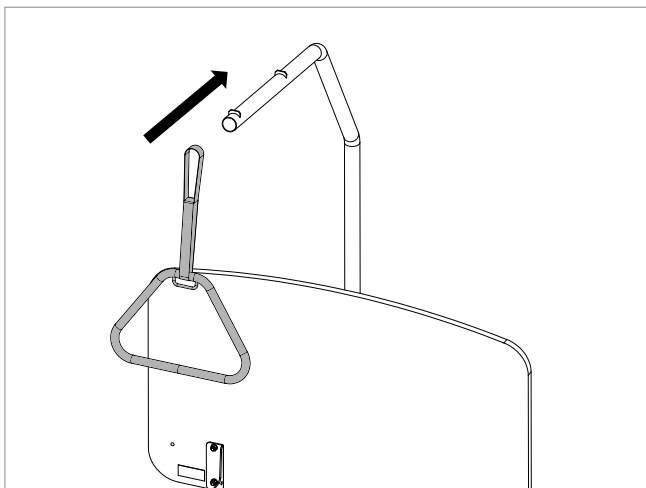

Figure 7.10
10. Spread open the loop of the Fixing Belt and slide over the Lifting Pole (see Figure 7.10).